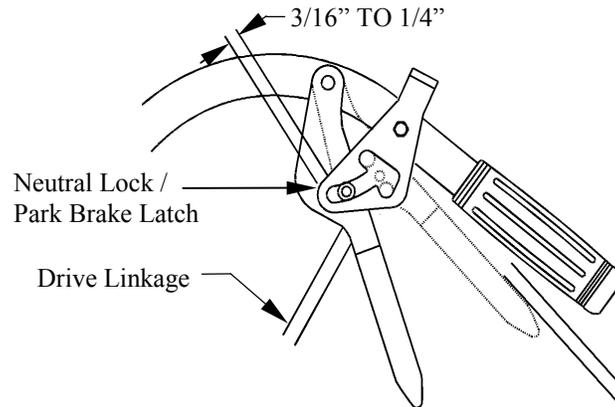

FIG. 10
- c) Adjust drive linkage length by threading into or out of the swivel until there is a 3/16" to 1/4" clearance between the linkage assembly and the bottom of the slot in the neutral lock/park brake latch (See Figure 10).